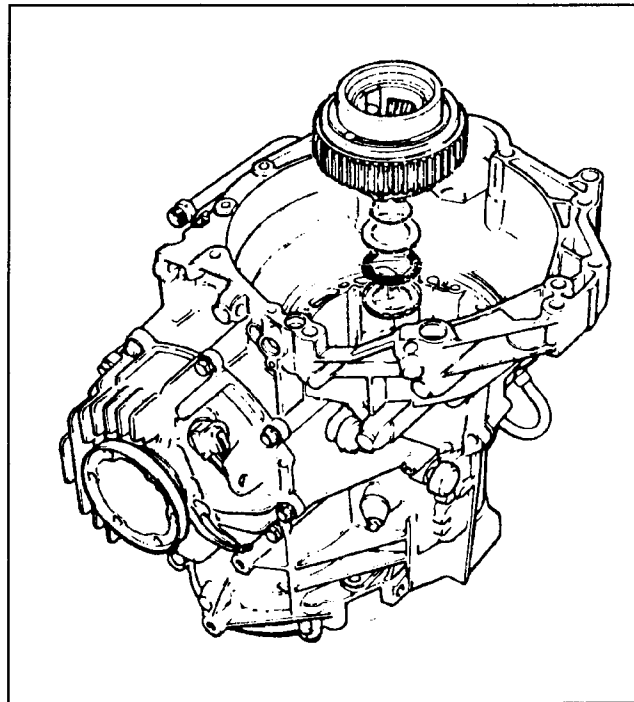

Figure 68
20. Lift and remove the planetary from the case and set it aside. Remove the torrrington bearing and both races and check them for wear. (See figure 68).